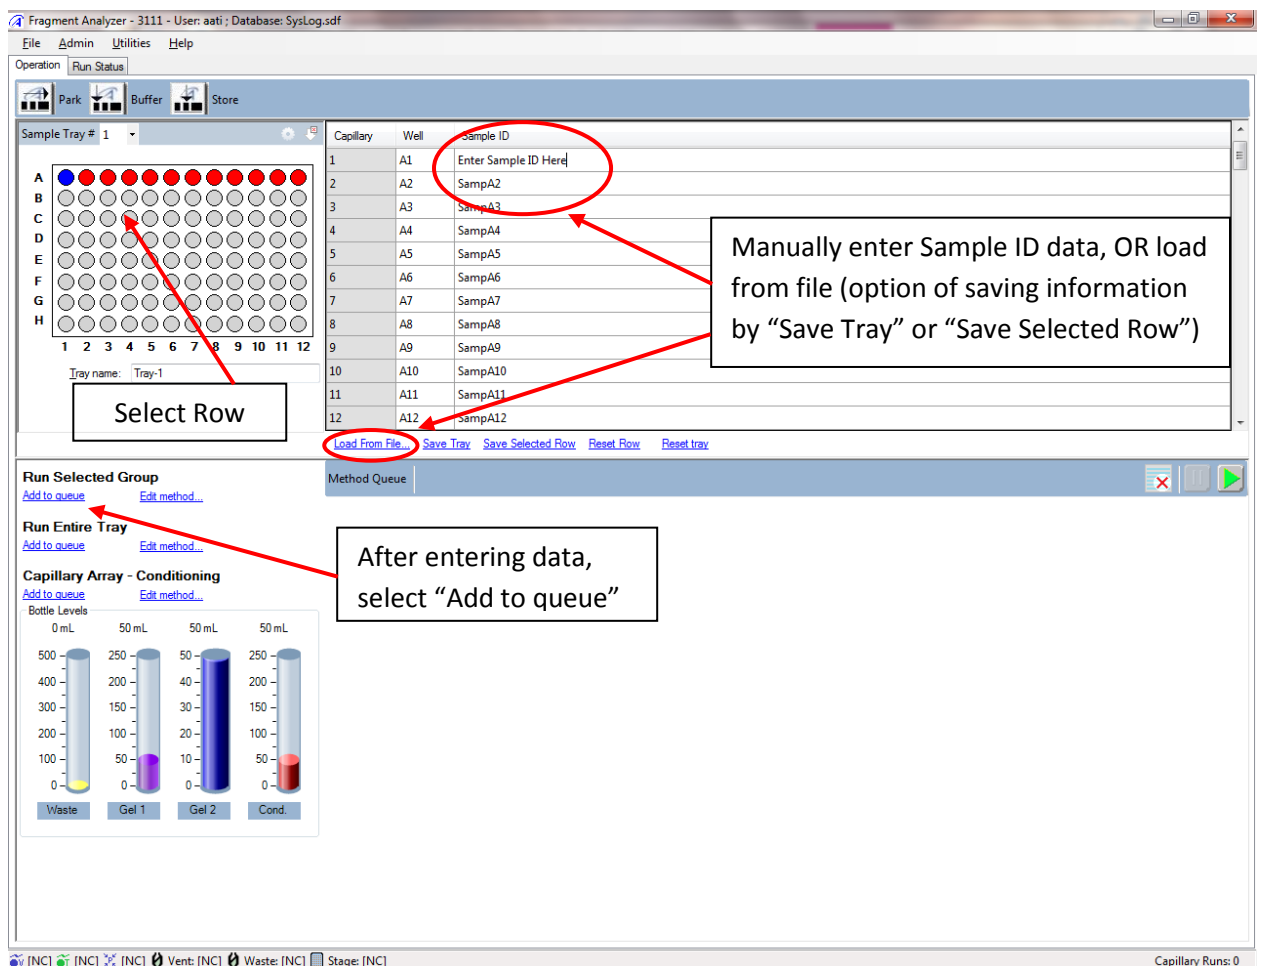

Figure 3. Main Screen showing selection of sample row and entering sample information
1. To set up an experiment, from the Main Menu of the *Fragment Analyzer*TM instrument control software, select the **Operation** tab (Figure 3). Select the sample tray location to be analyzed (1, 2, or 3) by left clicking the **Sample Tray #** dropdown or by clicking the appropriate sample plate tab (alternate plate view) and choosing the appropriate location. 48-Capillary or 96-Capillary Systems: Note that Sample 3 is typically assigned to the Capillary Storage Solution.
2. Left click a well of the desired sample plate row with the mouse. The selected row will be highlighted in the plate map (e.g., Row A in Figure 3). Enter the sample name if desired into the respective **Sample ID** cell by left clicking the cell and typing in the name. Alternatively, sample information can be imported from .txt or .csv file by selecting the **Load from File...** option.